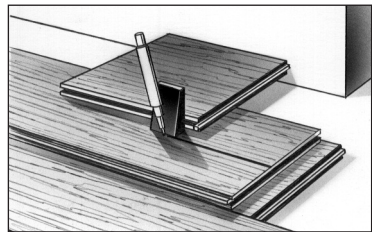

Fig. 16
2. Place the row of planks to be fit on top of the last row of installed planks. Use a divider or a piece of the plank as a scribe to trace the contour of the wall (Fig. 16).
3. Be sure to place a spacer between the marking pen and "scribe" piece of board. This adds the 1/4" (6.35 mm) to 1/2" (12.7 mm) space you need at the finish wall. (Fig. 16)